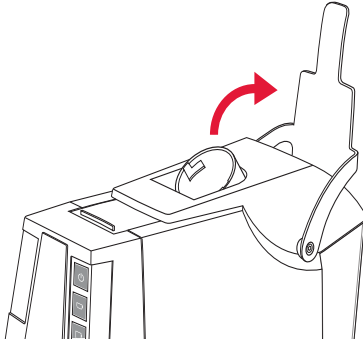

Figure 1
1. Open the handle. See figure 1.